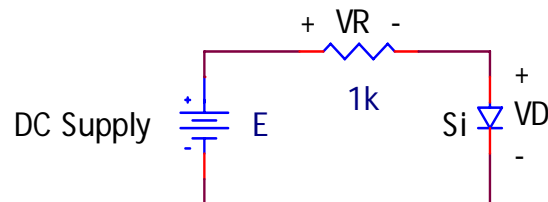

Fig. 2.1
1. Construct the circuit of *Fig. 2.1* with the supply ( $E$ ) is set at 0 V. Record the measured value of the resistor.